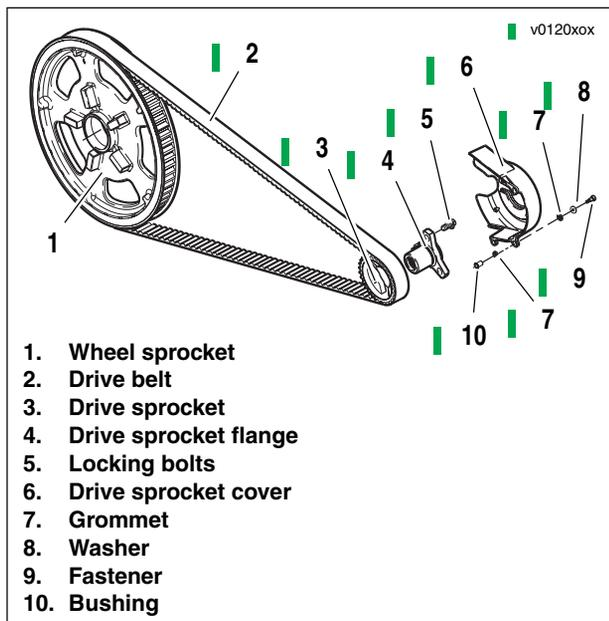

Figure 1-42. Sprocket and Belt Components
2. See Figure 1-42. Remove drive sprocket cover (6) fasteners (9) and washers (8). Grommets (7) and bushings (10) should stay with cover (6).
3. See Figure 1-42. Loosen locking bolts (5) holding drive sprocket (3) to drive sprocket flange (4).
10. See Figure 1-42. Slip drive belt (2) off wheel sprocket (1) and drive sprocket (3).
17. See Figure 1-42. Fit replacement belt (2) around drive sprocket (3) and over wheel sprocket (1).